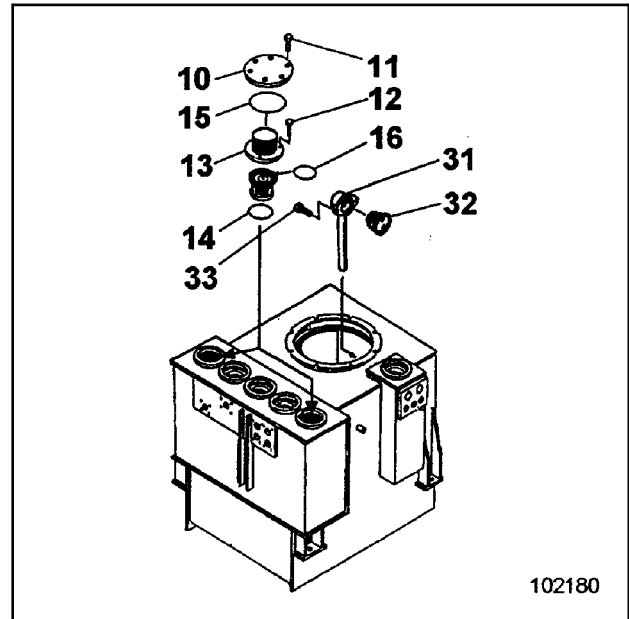

Fig. 7
- Remove cover (10, Fig. 7). Remove screws (12) and take out the bypass valve. Withdraw sieve (13) and clean in white spirit or paraffin oil. Replace, if required.
- Check sealing ring (16) for damage and replace, if required.
- Refit cover (10) with sealing ring (15).